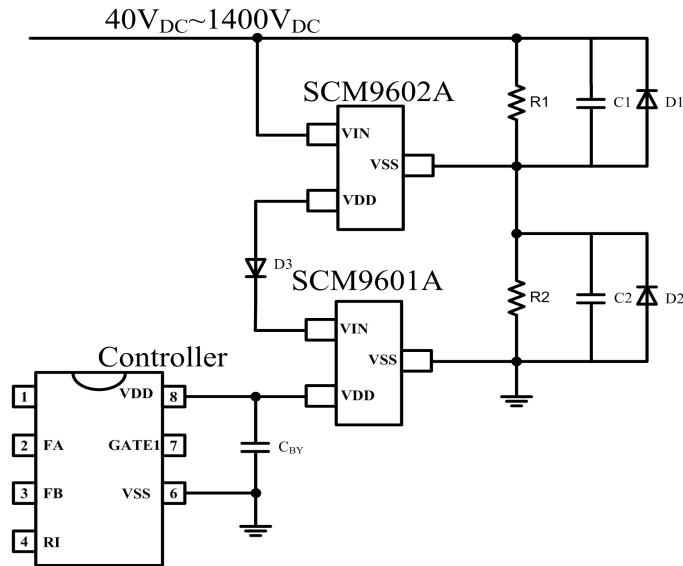

Fig. 7 Input 40VDC~1400VDC application circuit (SCM9601A and SCM9602A are used in series)
2. When applied to a higher input voltage range, it is recommended to use our SCM9602A, please refer to Fig.7. C1 and C2 are input high-voltage storage capacitors to slow the fluctuation of input voltage; R1 and R2 are equalization Resistance, avoiding the uneven voltage problem caused by the difference between C1 and C2 leakage current; D1, D2 and D3 are used to solve the current backflow problem caused by the large difference between C1 and C2 leakage current.